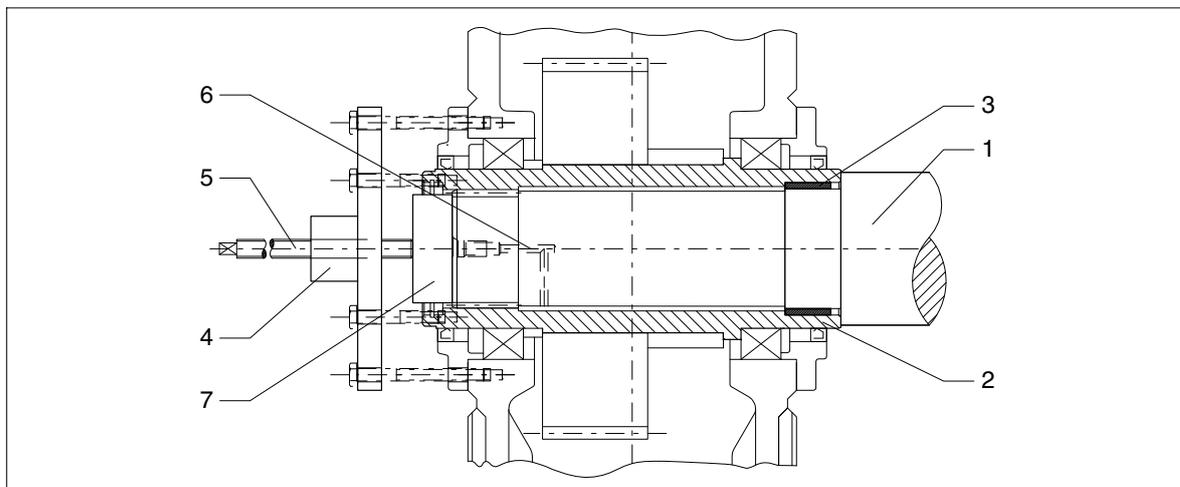

Fig. 39: Hollow shaft with internal spline, demounting with hydraulic lifting unit
- If frictional corrosion has occurred on the seating surfaces, rust-releasing agent may be used in order to facilitate forcing off the gear unit. The rust releaser can be injected through the pressure-oil connection (see figure 39), e.g. using a pump.
- When the rust-releasing agent has taken effect, pull the gear unit off using the device (see figures 39 and/or 40).
If the support is provided not only by the hollow shaft, but also by the housing, as shown in figure 39, the forces used must not exceed the values given in the following table 15.